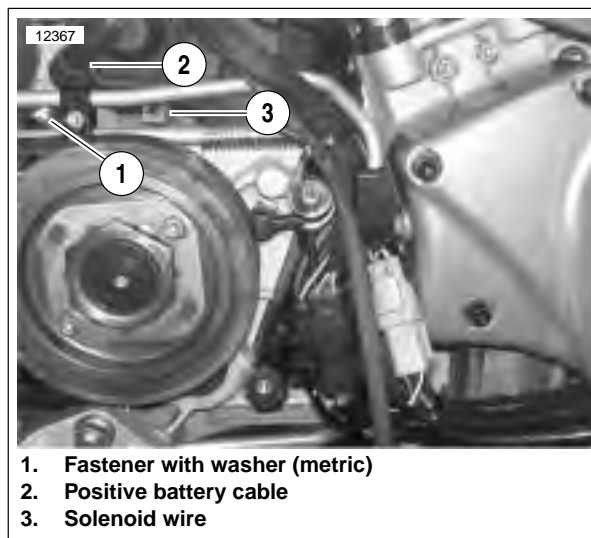

Figure 5-9. Starter Wires
6. See Figure 5-9. Remove fastener with washer (1) (metric).
- b. Remove positive battery cable ring terminal (2).
- c. Detach solenoid wire (3).